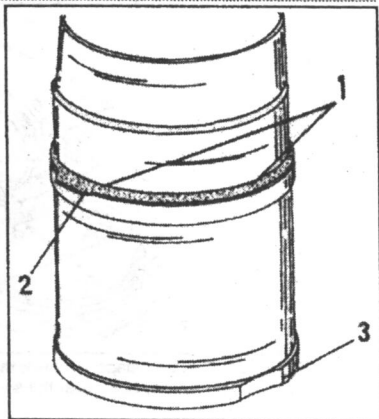

Fig. 1.27. — View of a cylinder liner with the fitted seal. Refer to text.
- Remove the cylinder liner and fit the liner seals in accordance with Fig. 1.27, but note the following points: The seal has a tag (1), which is inserted into a locating groove in the liner. A second tag (tab) is used to identify the thickness of the liner seal and must be arranged so that it is in line with the flat (3) at the upper end of the liner. If all cylinder liners are removed at once, make sure they are identified where they come from.